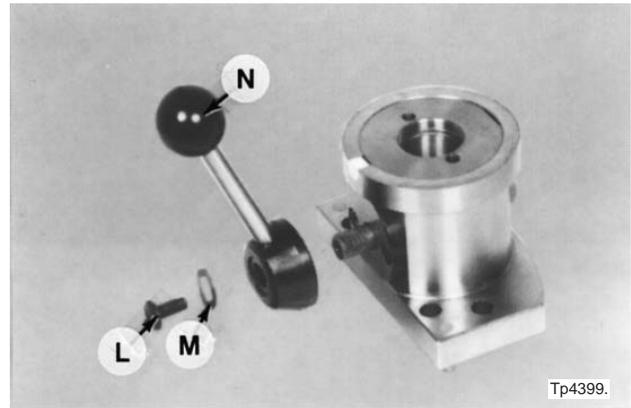

Figure 2.17 - Handle Removal
- k) Remove screw "L", wave washer "M", and handle "N", Figure 2.17 .
- f) Replace handle "N", wave washer "M", and screw "L", Figure 2.17 .